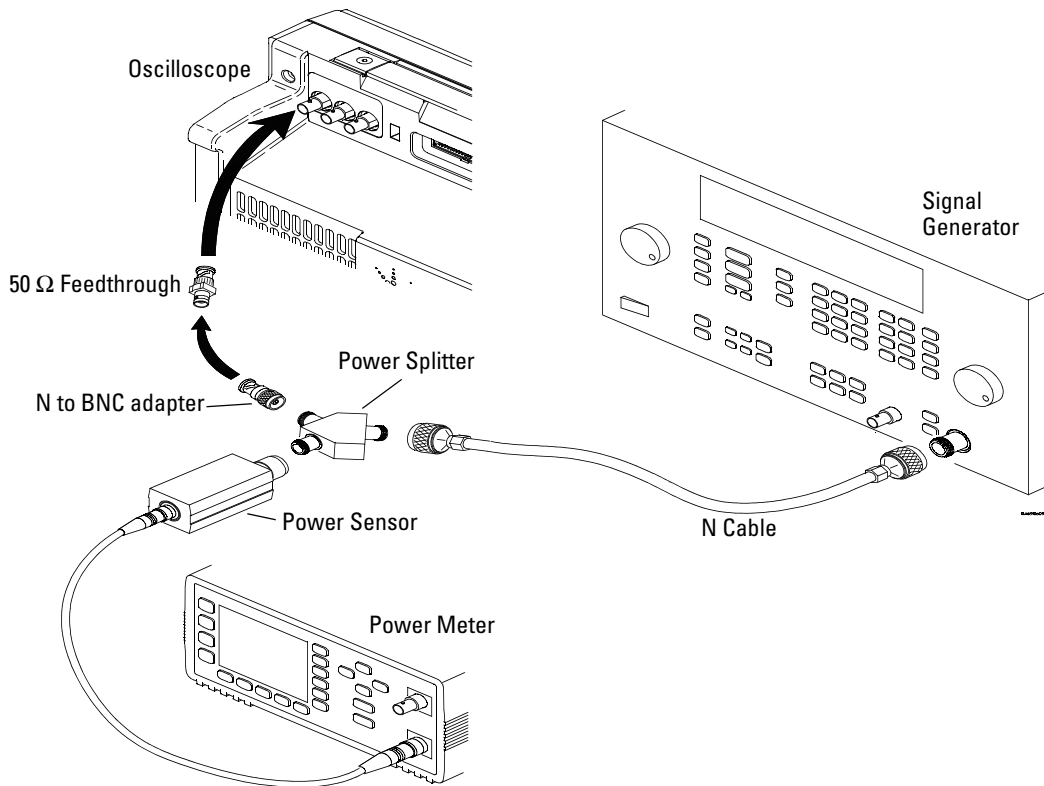

Figure 8 Setting Up Equipment for 4-Channel External Trigger Sensitivity Test
- 1 Connect the equipment (see Figure 8).